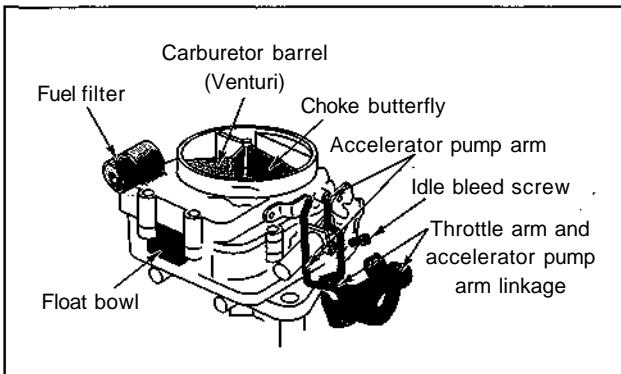

Figure 21-1:
2. Remove the air cleaner (find instructions in Chapter 6) and look into the carburetor barrel, as shown in Figure 21-1.